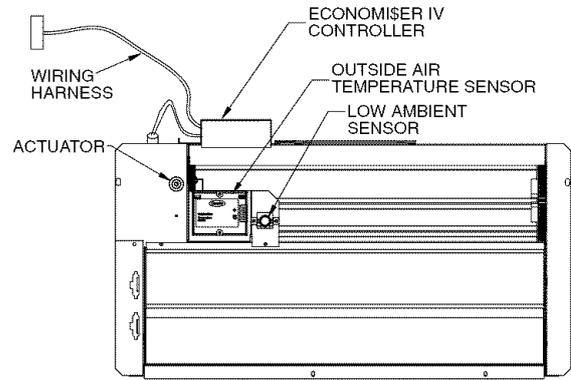
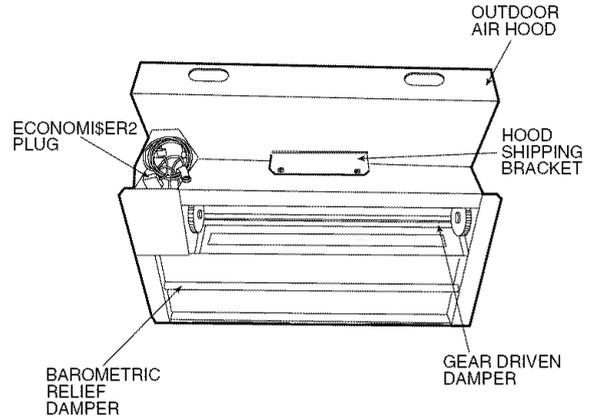
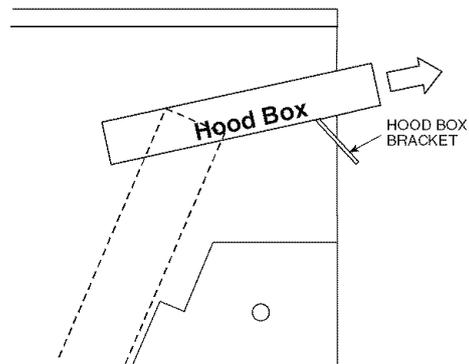

Fig. 24 — EconoMiSer IV Component Locations
Fig. 25 — EconoMiSer2 Component Locations
Fig. 27 — Hood Box Removal
OPTIONAL ECONOMISER IV AND ECONOMISER2 — See Fig. 24 for EconoMiSer IV component locations. See Fig. 25 for EconoMiSer2 component locations.
2. The box with the economizer hood components is shipped in the compartment behind the economizer. The EconoMiSer IV controller is mounted on top of the EconoMiSer IV in the position shown in Fig. 24. The optional EconoMiSer2 with 4 to 20 mA actuator signal control does not include the EconoMiSer IV controller. To remove the component box from its shipping position, remove the screw holding the hood box bracket to the top of the economizer. Slide the hood box out of the unit. See Fig. 27.
Outdoor Air Temperature (OAT) Sensor — The outdoor air temperature sensor (HH57AC074) is a 10 to 20 mA device used to measure the outdoor-air temperature. The outdoor-air temperature is used to determine when the EconoMi\$er IV can be used for free cooling. The sensor is factory-installed on the EconoMi\$er IV in the outdoor airstream. See Fig. 24. The operating range of temperature measurement is 40 to 100 F.
Outdoor Air Lockout Sensor — The EconoMi\$er IV is equipped with an ambient temperature lockout switch located in the outdoor air stream which is used to lockout the compressors below a 42 F ambient temperature. See Fig. 24.